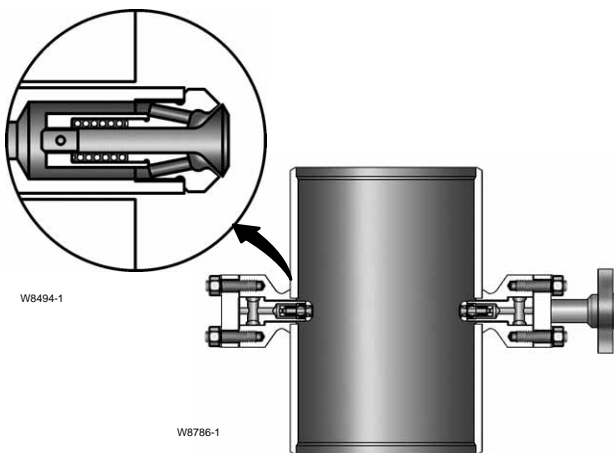

Figure 4. Design TBX-T Desuperheater
• **Design TBX-T**—The Design TBX-T desuperheater incorporates a spraywater manifold of variable geometry Type AF nozzles that produce an optimized spray pattern over a wide operating range. These nozzles are strategically placed to achieve optimal mixing and quick vaporization at all flowing conditions (see figure 4).